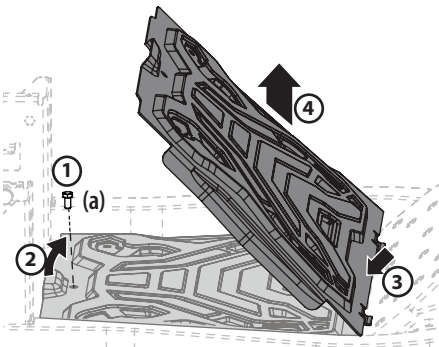

Figure 35
1. Using the multi-tool (if equipped) or a 1/2" socket, remove the hex screw (a) that secures the floor panel in place. See 1 in Figure 35.
2. Carefully lift the rear of the floor panel. See 2 in Figure 35.
3. Slide the floor panel rearward to free the front of the floor panel. See 3 in Figure 35.
4. Lift it off the tractor. See 4 in Figure 35.